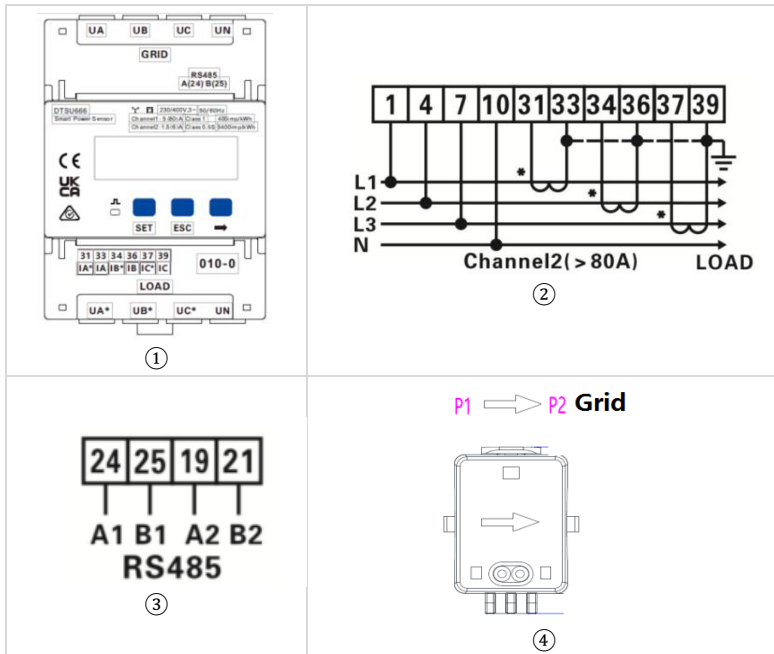

Figure 5-12(a) Meter (Instrument Transformer Meter)
The smart meter with CTs is shown in the Figure 5-12(a)①, Pin1/2 of RJ45 terminal on the inverter correspond to Pin24/25 respectively on the meter, as shown in Figure 5-12(a)③.
The connection mode is shown in Figure 5-12(a)②. The Pin1/4/7/10 on the electricity meter are connected to voltage signals L and N respectively. And the current signals need to be connected through the current transformer, Pin31/33, Pin34/36, Pin37/39 correspond to the current transformer.